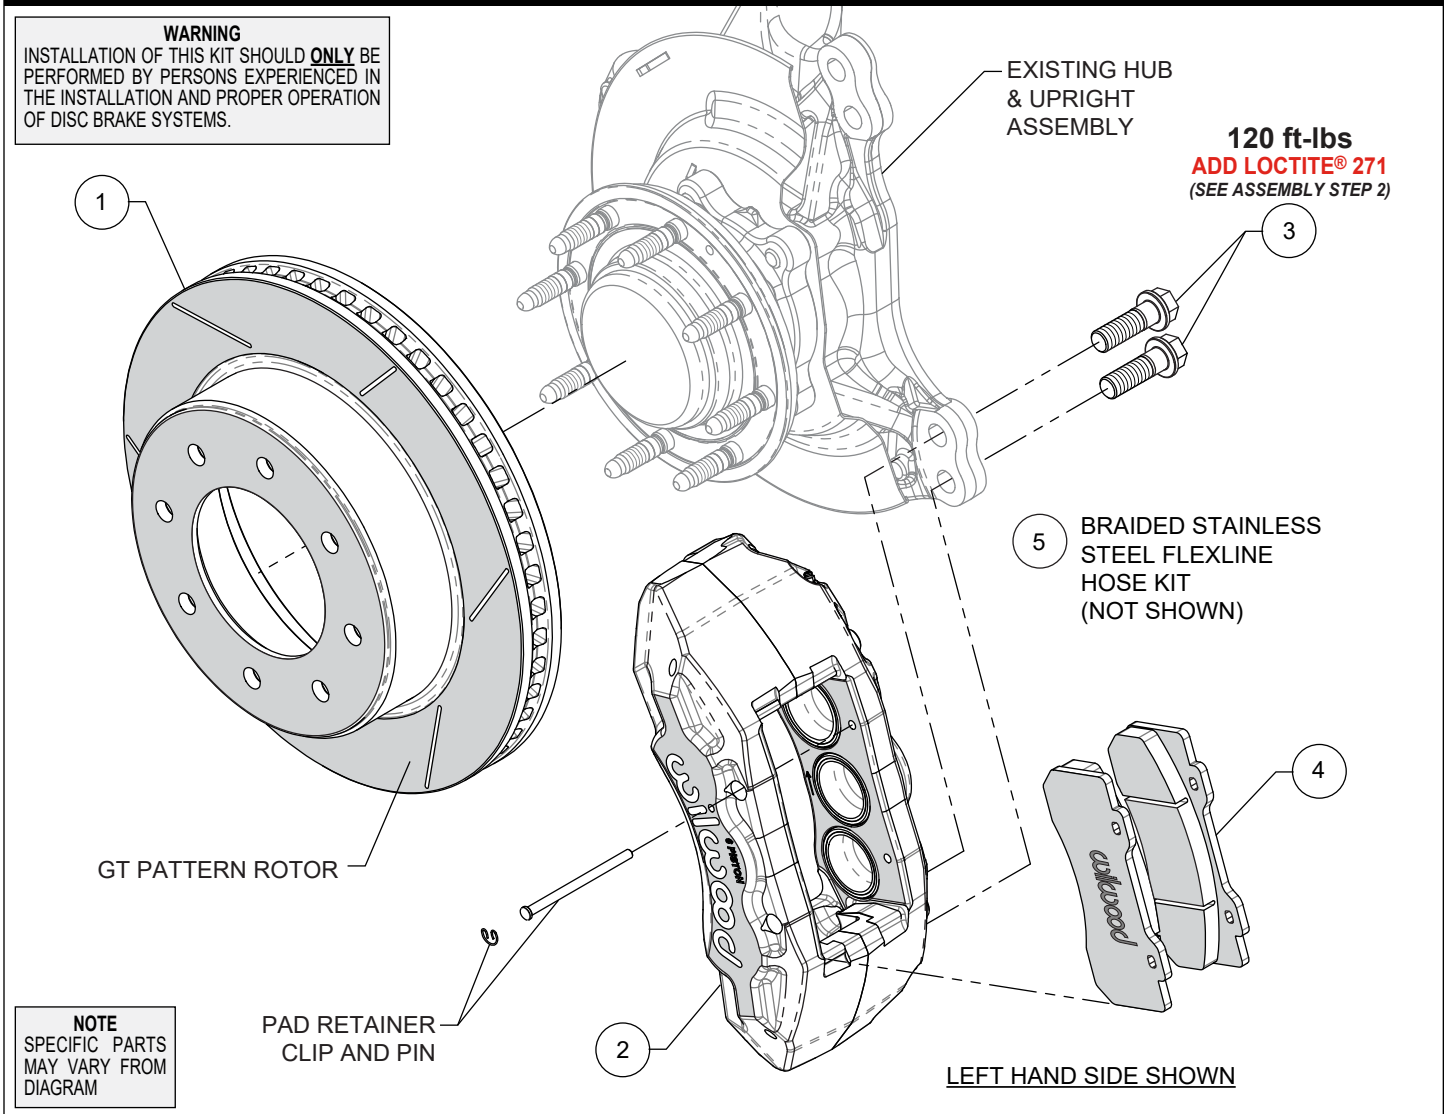

Figure 1. Typical Installation Configuration
Numbers in parenthesis refer to the parts list and Figure 1 on the preceding pages.
**STEP 1** Slide the rotor (1) onto the hub. **NOTE:** The rotor must fit flush against the hub flange or excessive rotor run out may result. Install three lug nuts (finger tight) to keep the rotor in place while continuing with the installation, Photo 1.
**STEP 2** **NOTE:** This kit contains distinct right and left hand calipers that must be mounted in a specific direction, as described below. Ensure that the caliper is mounted so the largest pistons are at the rotor exit end of the caliper, in relation to the forward direction of the rotor. Mount the caliper (2) onto the OEM caliper mounting bosses of upright using bolts (3), as shown in Photo 2 and Figure 1. Apply red *Loctite*® 271 to bolt threads, and torque to value shown in Figure 1.
**STEP 3** Remove the two pad retaining pins from the caliper by carefully popping out the pin retaining clips and sliding out the pins. Insert the brake pads (4) into the caliper, with the friction material facing the rotor, as shown in Photo 3. Secure the brake pads in place with the pad retaining pins and clips, Photo 4.
**STEP 5** Attach brake line to caliper. **NOTE:** OEM rubber brake hoses generally cannot be adapted to Wilwood calipers. Install Wilwood’s braided stainless steel flexline hose kit (5), p/n 220-17465, included with this kit. The caliper inlet fitting is a 1/8-27 NPT. Use the included steel adapter fitting at the caliper (use PTFE tape on the pipe threads of adapter fitting for proper sealing to caliper). Note the final orientation of the caliper inlet adapter fitting as shown in Photo 8.